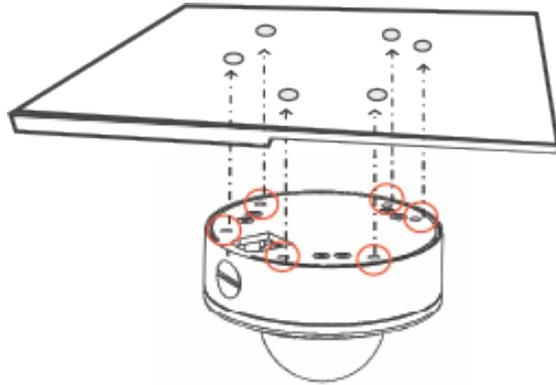

Figure 3: Drill three of the six holes provided.
- a. **Surface Mount:** use the supplied template to mark three desired holes (there are six holes to choose from; see Figure 3). Then drill the holes with a diameter of 8 mm (0.3 in) and insert the supplied anchors into the holes. Attach the camera module and supplied gasket securely using the supplied screws.